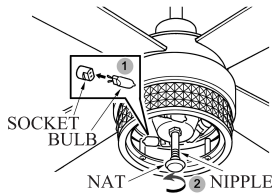

FIG.18
7. Plug the bulb into the socket. and loosen the nat from the nipple. (see Fig.18)